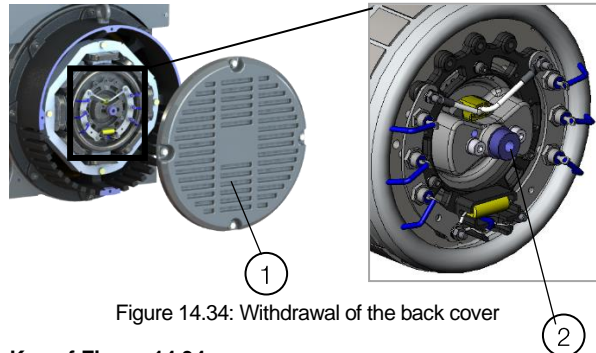

Figure 14.34: Withdrawal of the back cover
- 1) Withdraw the alternator exciter cover, to have access to the exciter rotor coupling bushing, according to Figure 14.34.
Key of Figure 14.34: